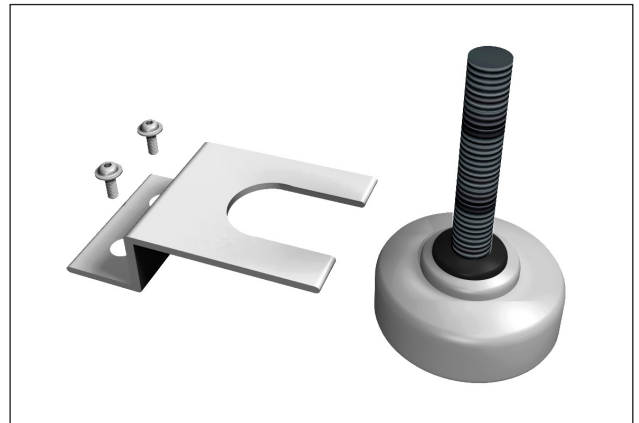

FIG. 2. Securely fasten the anti-tip brackets to the floor.
5. With the appropriate provided hardware, install the anti-tip brackets. See fig. 2.